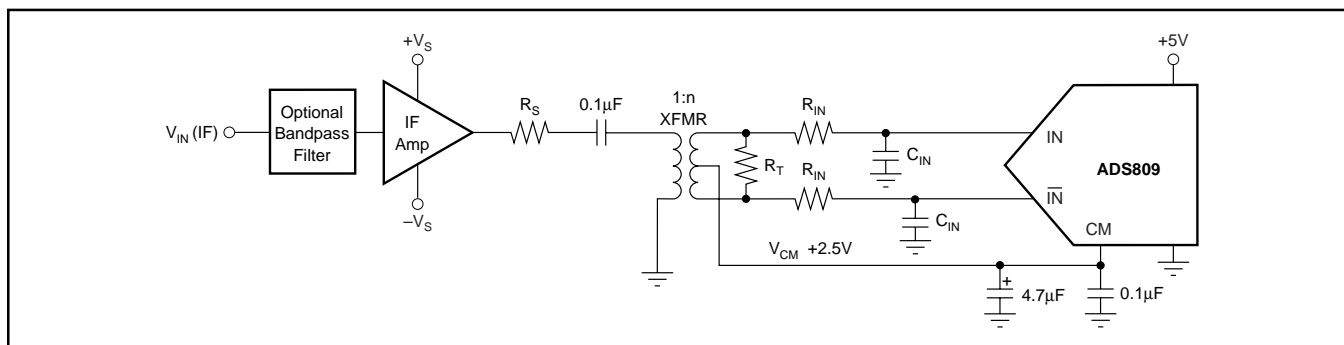

FIGURE 4. Driving the ADS809 with a Low-Distortion RF Amplifier and a Transformer Suited for IF Sampling Applications.
One possible interface solution that uses a transformer is given in Figure 4. The input signal is assumed to be an Intermediate Frequency (IF) and bandpass filtered prior to the IF amplifier. Dedicated IF amplifiers, for example the RF2312 or MAR-6, are fixed-gain broadband amplifiers and feature a very high bandwidth, a low-noise figure, and a high intercept point at the expense of high quiescent currents of 50-120mA. The IF amplifier may be AC-coupled or directly connected to the primary side of the transformer.
Furthermore, the appropriate model must support the targeted distortion level and should not exhibit any core saturation at full-scale voltage levels. Since the transformer does not appreciably load the ladder, its center tap can be directly tied to the CM pin of the converter, as shown in Figure 4. The value of termination resistor ( $R_T$ ) should be chosen to satisfy the termination requirements of the source impedance ( $R_S$ ). It can be calculated using the equation  $R_T = n^2 \cdot R_S$  to ensure proper impedance matching.